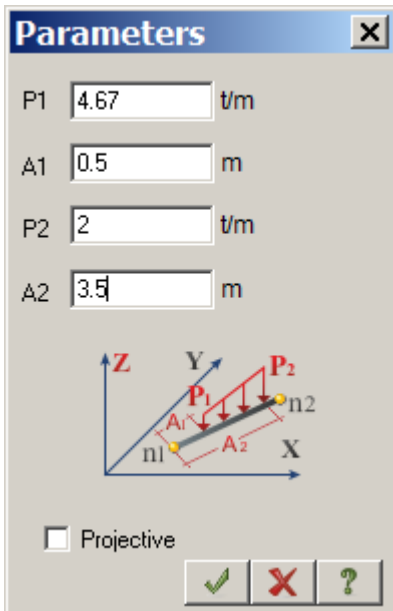

Figure 1.15 Load parameters dialog box (trapezoidal load)
- ⇒ In the **Load parameters** dialog box, specify the following data: $P1 = 4.67 \text{ t/m}$, $A1 = 0.5 \text{ m}$, $P2 = 2.0 \text{ t/m}$, $A2 = 3.5 \text{ m}$ (see Fig.1.15).